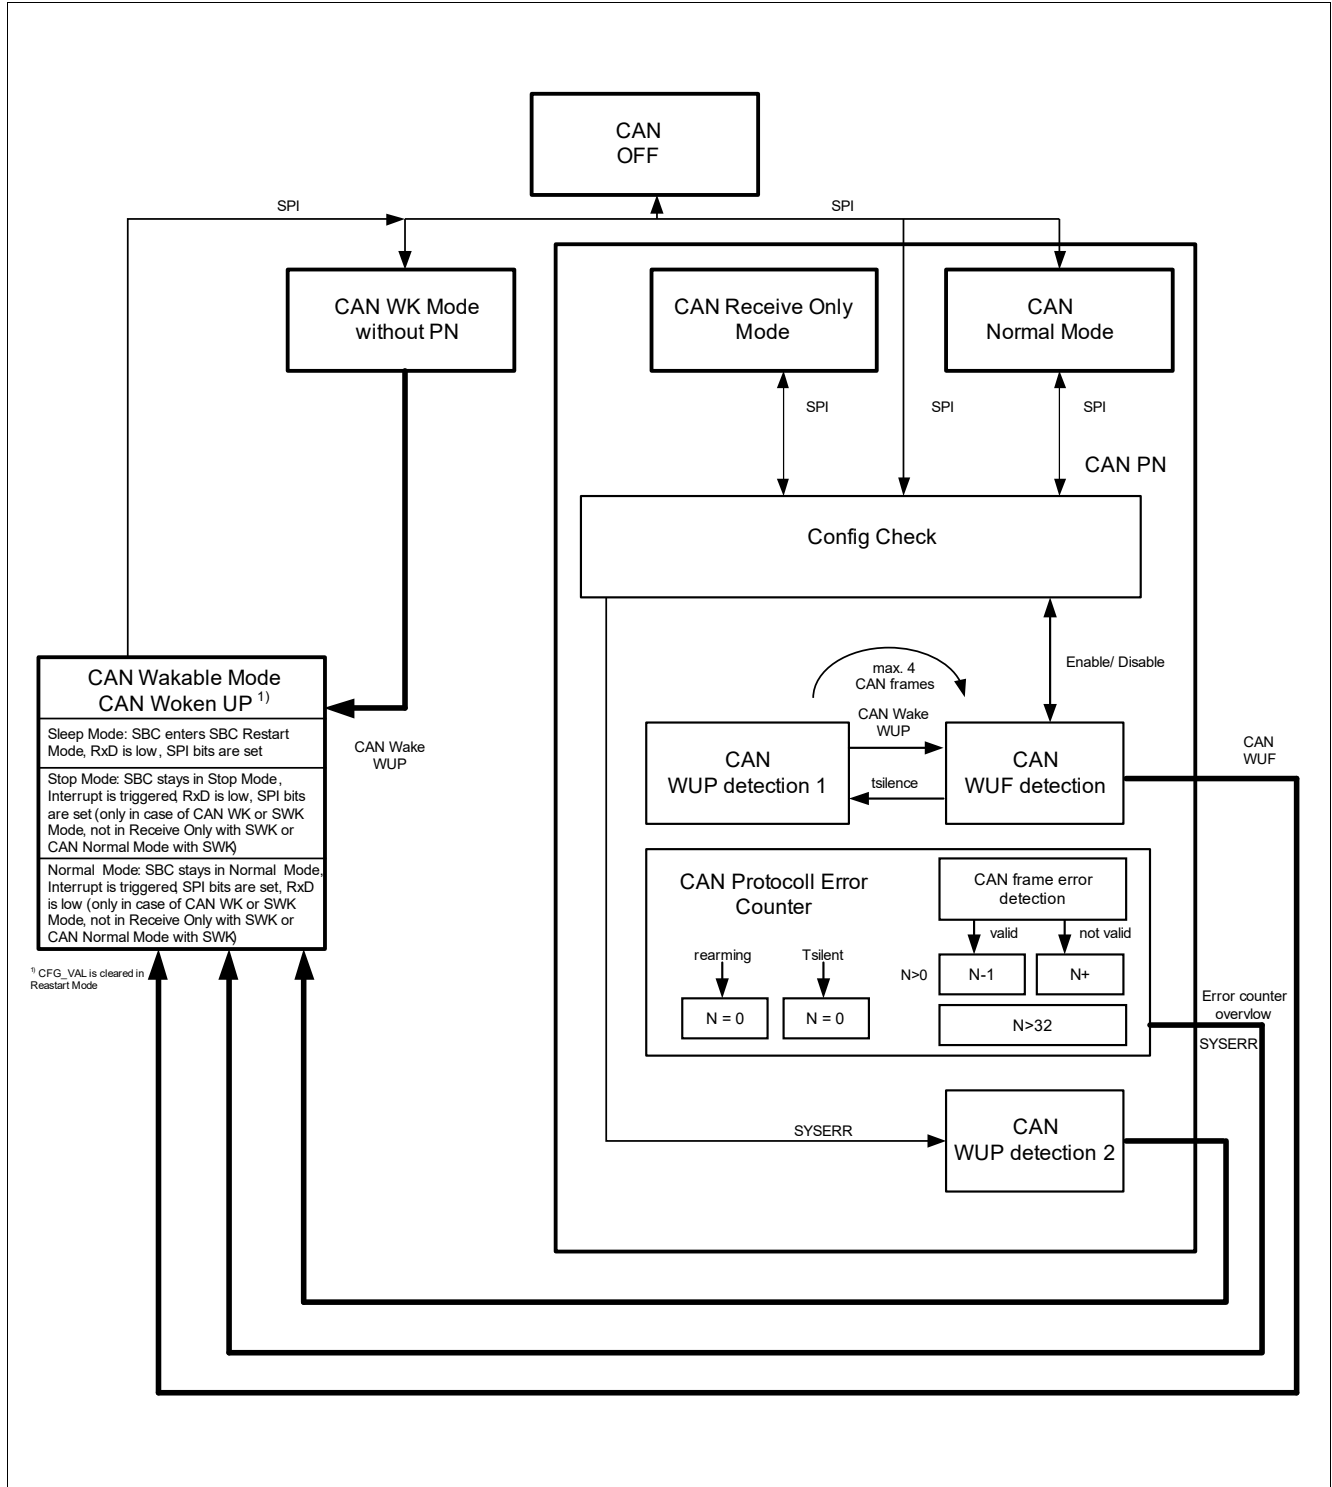

Figure 11 CAN Selective Wake State Diagram
*Note:* It is possible that WUF and WUP bit are set at the same time if a WUF causes a wake out of SWK, by setting the interrupt or by restart out of SBC Sleep Mode. The reason is because the CAN has been in WUP detection 1 state during the time of SWK mode (because of  $t_{\text{SILENCE}}$ ). See also **Figure 11**.
The **SWK\_SET** bit is set to signalize the following states (see also **Figure 11**):